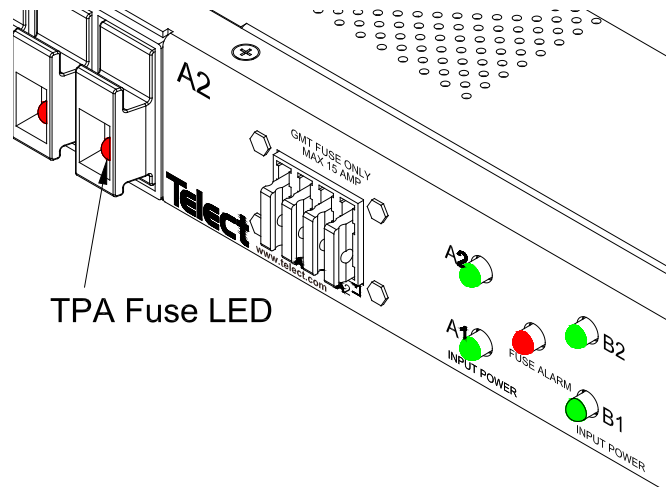

Figure 7 - Alarm Indicators
- The **INPUT POWER A** LED on the front of the panel turns on (green). (See Figure 7 for the location.)